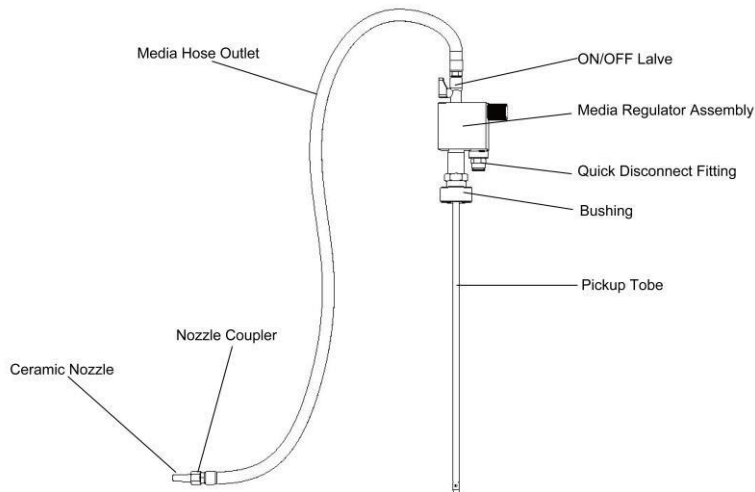

Figure 2
2. The Delicate Media Regulator is recommend to assemble firstly, the Installation Diagram as following Figure 2